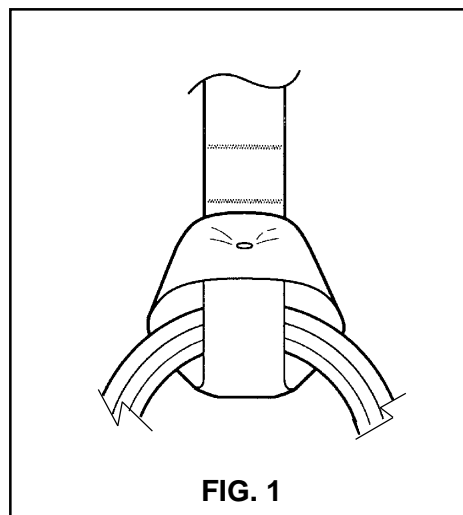

FIG. 1
2. Attach the bridle to the apex of the reserve canopy. The smaller loop of the bridle should be used at the apex and the loop should be tacked securely with enough slack so that the loop will not bind the apex lines. The apex lines must be able to move freely through the bridle attachment (**FIG. 1**).